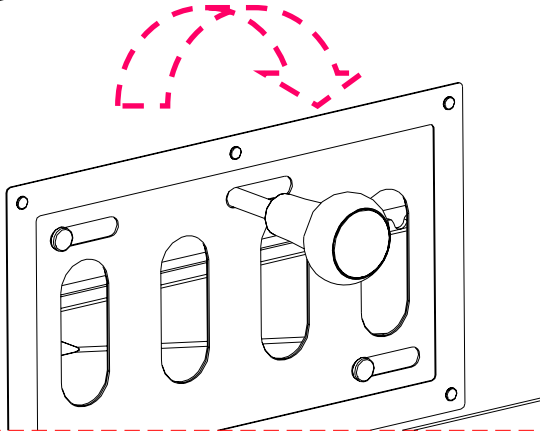

Fig.23
*Procedure:* Refer to the Fig. 23, screw the Damper Control Knob into the slotted hole of the Damper Plate. Check to see that the plate will slide back and forth.